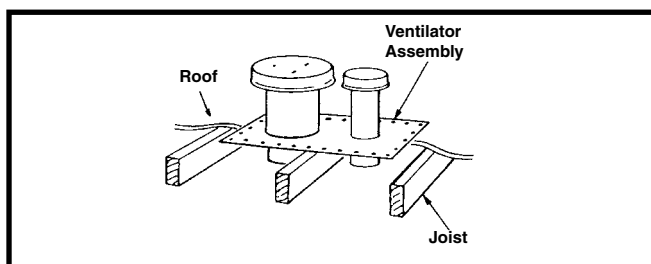

Figure 4. Ventilator Roof Alignment
3. Cut approximately a 7-inch diameter hole in ceiling directly above the duct fitting. Avoid ceiling joists and other obstructions in the ceiling cavity and keep debris from falling into furnace. See Figure 4.